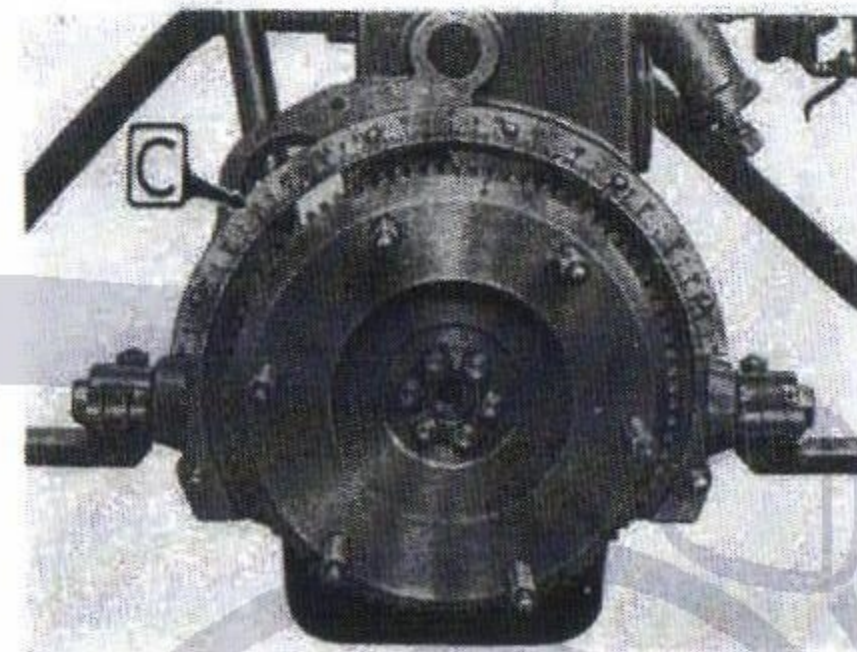

Fig. 45.
- a) Fit to the engine back the graduated sector C. 642 (Fig. 45).
a) Fit to the engine back the graduated sector C. 642 (Fig. 45).